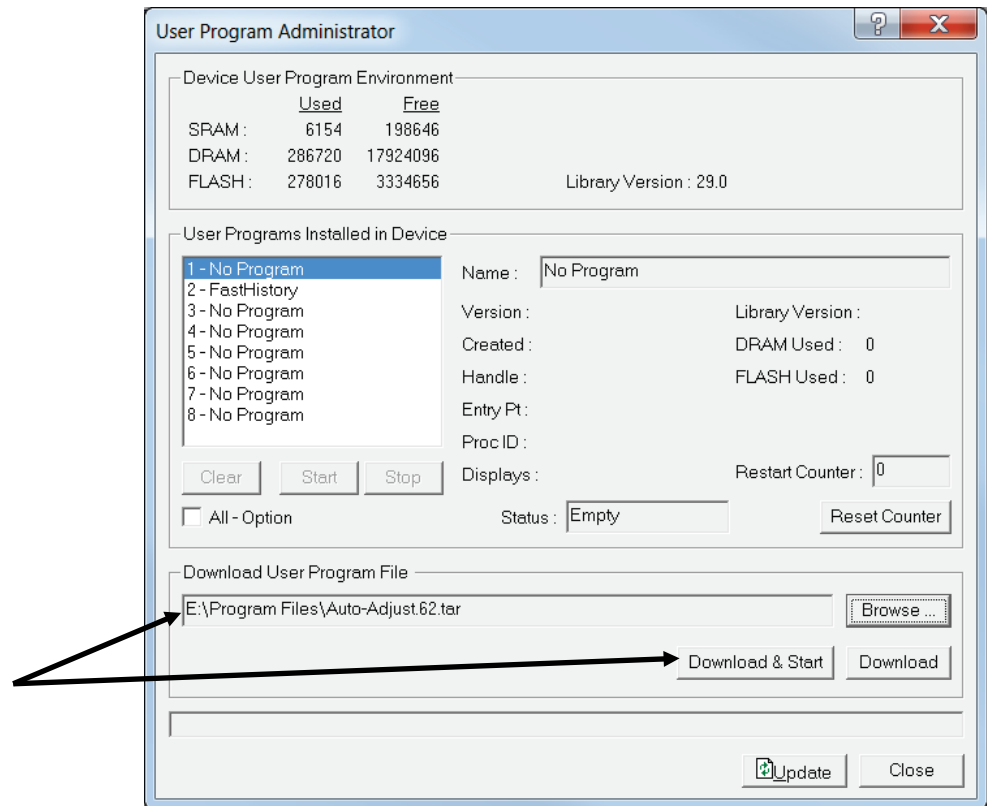

Figure 10. User Program Administrator
7. Click **Open** to select the program file. The User Program Administrator screen displays. As shown in *Figure 10*, note that the Download User Program File frame identifies the selected program and that the **Download & Start** button is active: